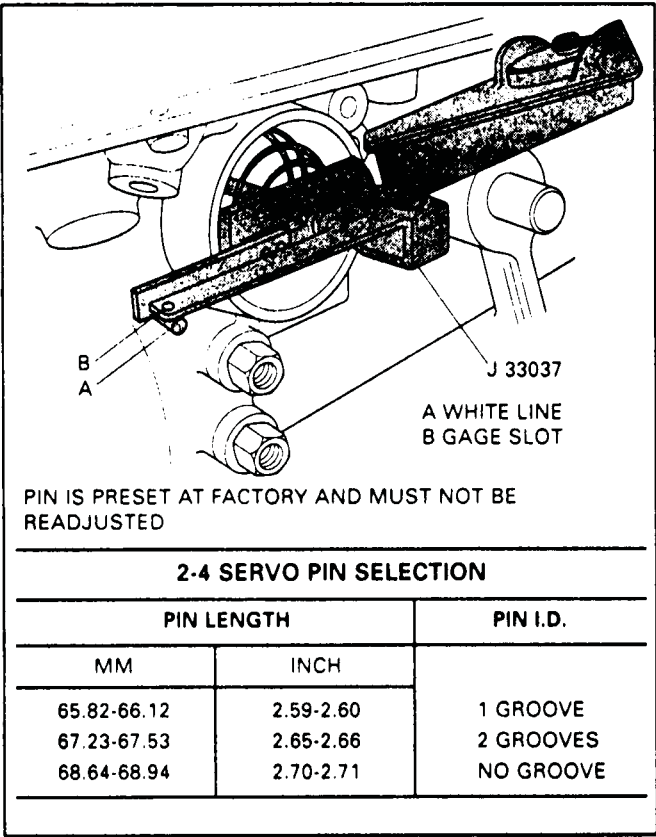

Figure 35
11. Install band apply pin tool J-33037 with the apply pin (See Figure 35).
12. Install servo cover retaining ring to secure tool (See Figure 35).
13. Apply 98 in.lb. of torque, and if the white line "A" appears in gage slot "B" the pin length is correct (Figure 35).
14. Use pin selection chart in Figure 35 to determine correct pin length if new pin is required.